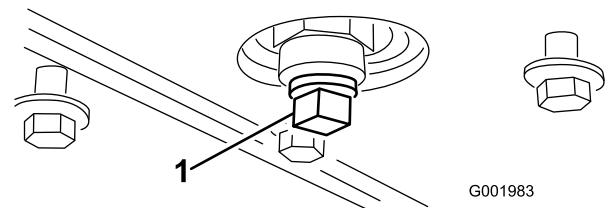

Figure 46
- Remove the drain plug (Figure 46).